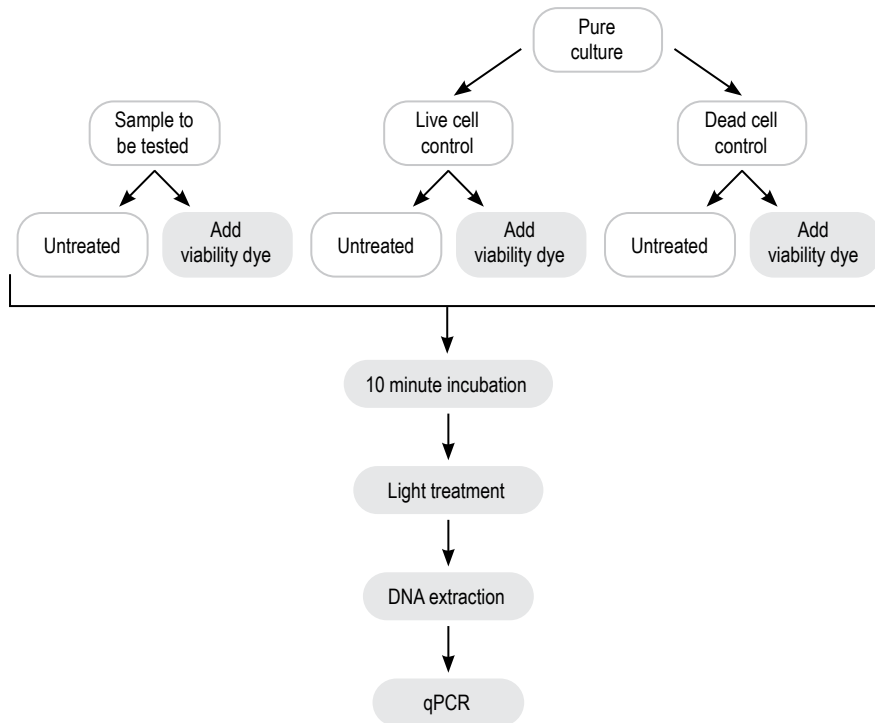

Figure 2. Viability PCR workflow overview, with recommended live and dead cell controls.
See Figure 2 for an overview of the procedure. This is a general protocol for treating cultured strains of bacteria with PMA or PMAxx™. It is recommended that you first perform a control experiment with live and dead controls for your selected organism.
3. Pipette 400  $\mu$ L aliquots of bacterial culture into clear microcentrifuge tubes. For each sample you will need one tube for PMA or PMAxx™-treated cells and one tube for untreated (no dye added) cells in order to calculate dCt (see Figure 2, “Considerations for viability PCR” #7, and “Data analysis” for additional details).